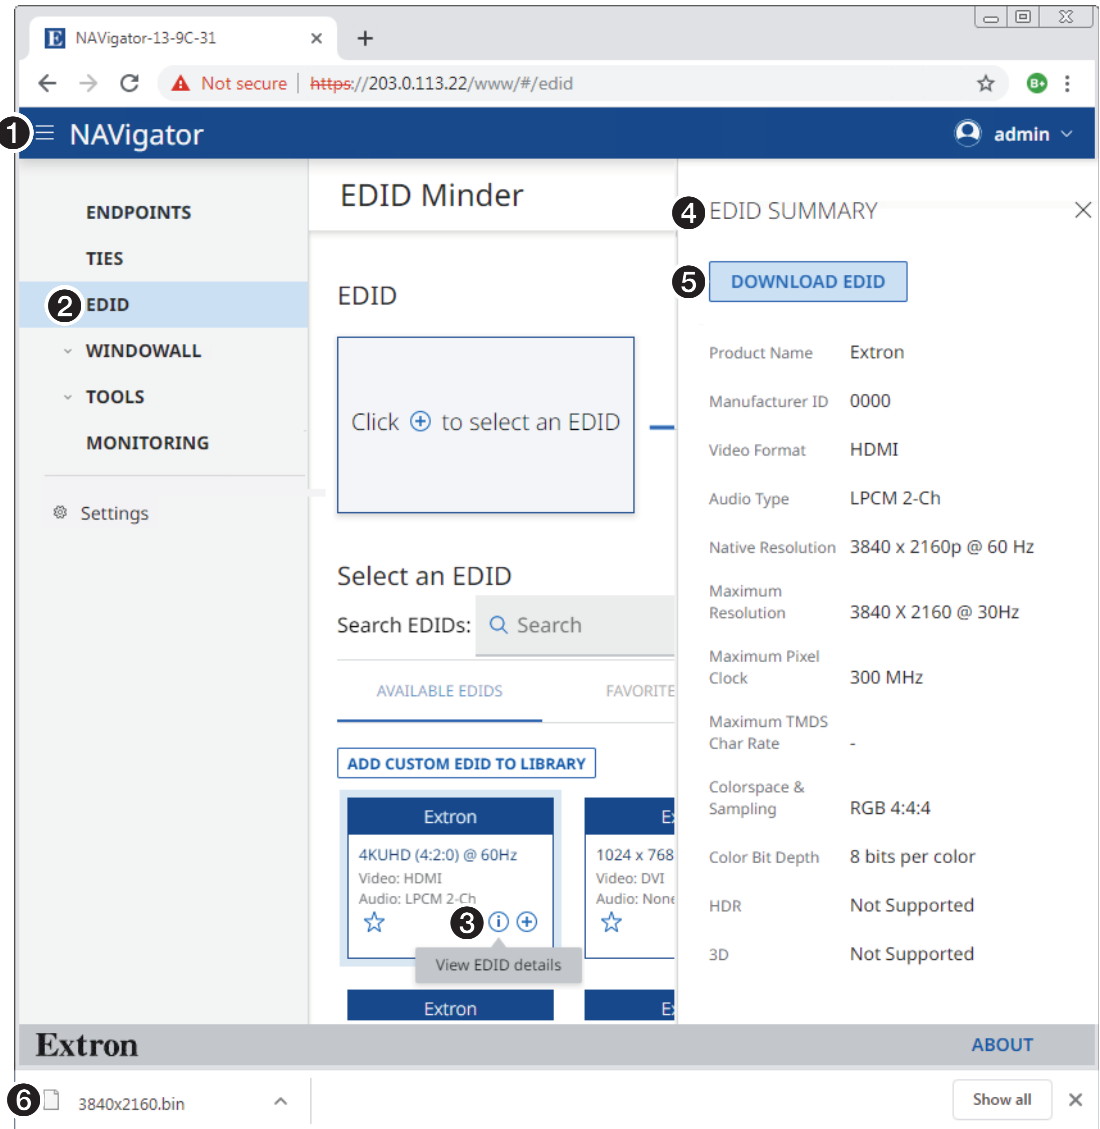

Figure 55. EDID Pane – Download an EDID
1. If necessary, click the **Menu** icon (see figure 55, ❶).
3. Click **Download EDID** (❺). Figure 55 shows the results of downloaded EDID in the Chrome browser (❻).